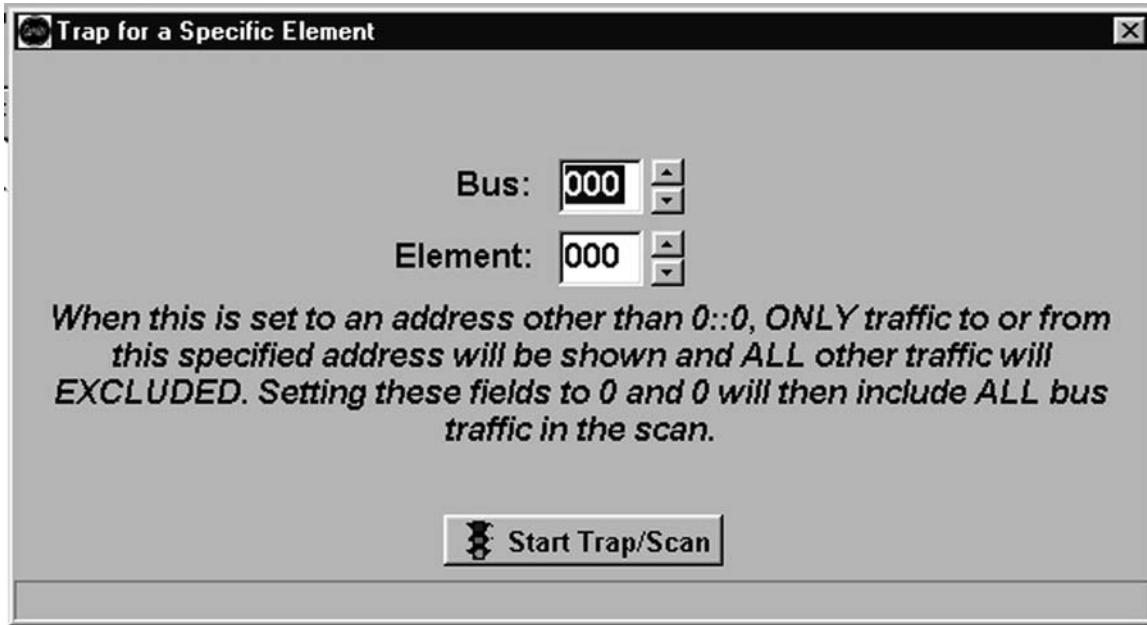

Fig. 19 — Bus Diagnostic Utility Address Trap
**TRAP SPECIFIC ADDRESS** — The Trap Specific Address menu item or button are used to specify a CCN address to trap information. When using this option, the bus diagnostic utility will only display messages to and from the specified CCN bus and element number. See Fig. 19. Once the valid CCN bus and element numbers have been entered, press the Start Trap/Scan button to begin the trace.